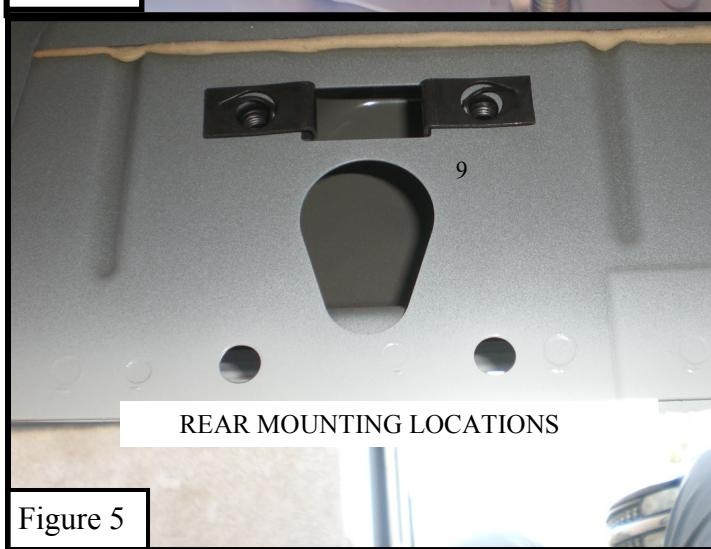
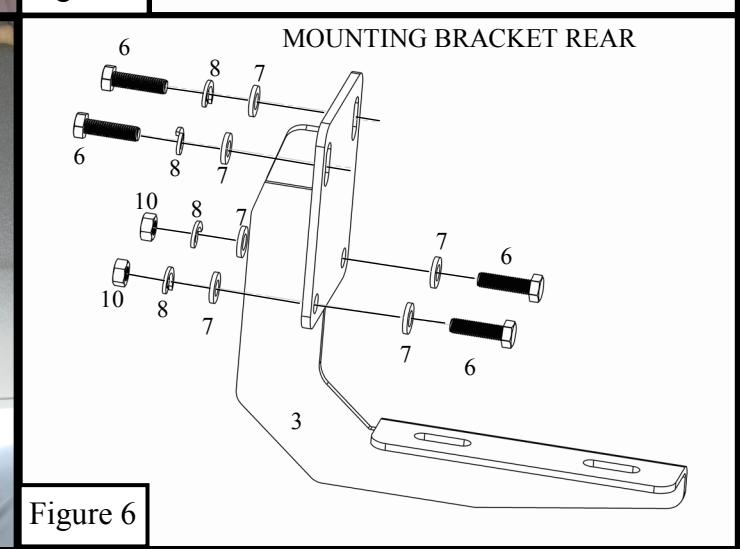

Figure 5
Figure 6
4. Locate the rear mounting point on the rocker panel (Figure 5), insert (2x) M8 nut clips onto the small circular holes (Figure 5). Attach the mounting bracket to the nut clips using (2x) M8 hex cap screws, (2x) M8 lock washers, and (2x) M8 flat washers. Attach the mounting bracket to the existing holes in the pinch weld using (2x) M8 hex cap screws, (4x) M8 flat washers, (2x) M8 lock washers, and (2x) M8 hex nuts (Figure 6). Do not fully tighten at this time.